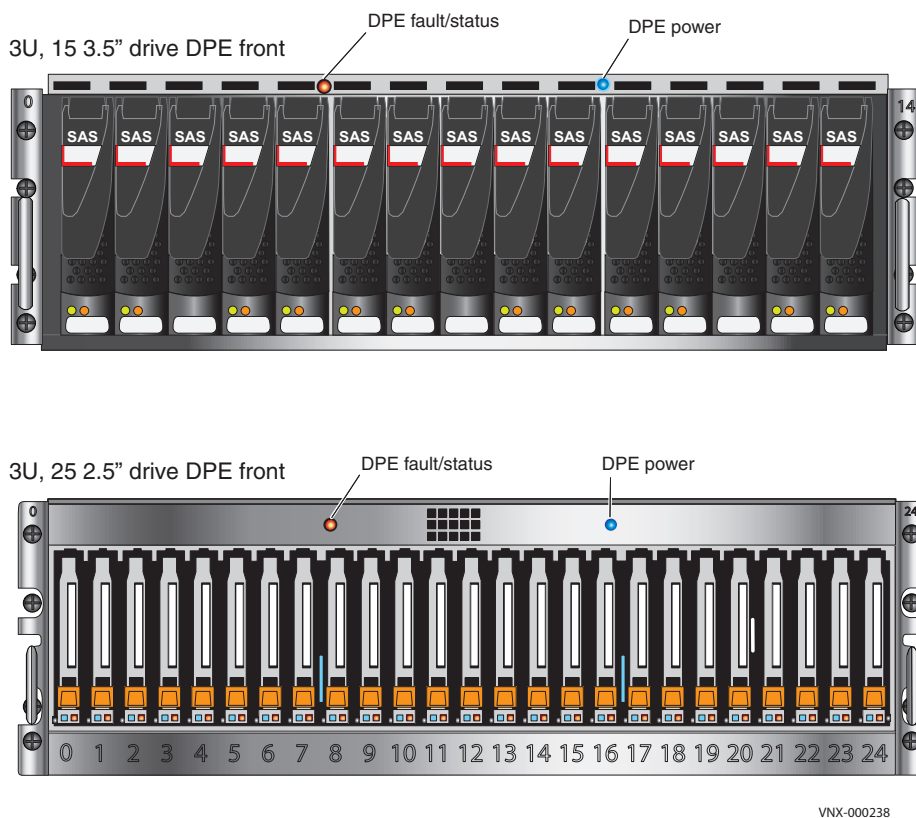
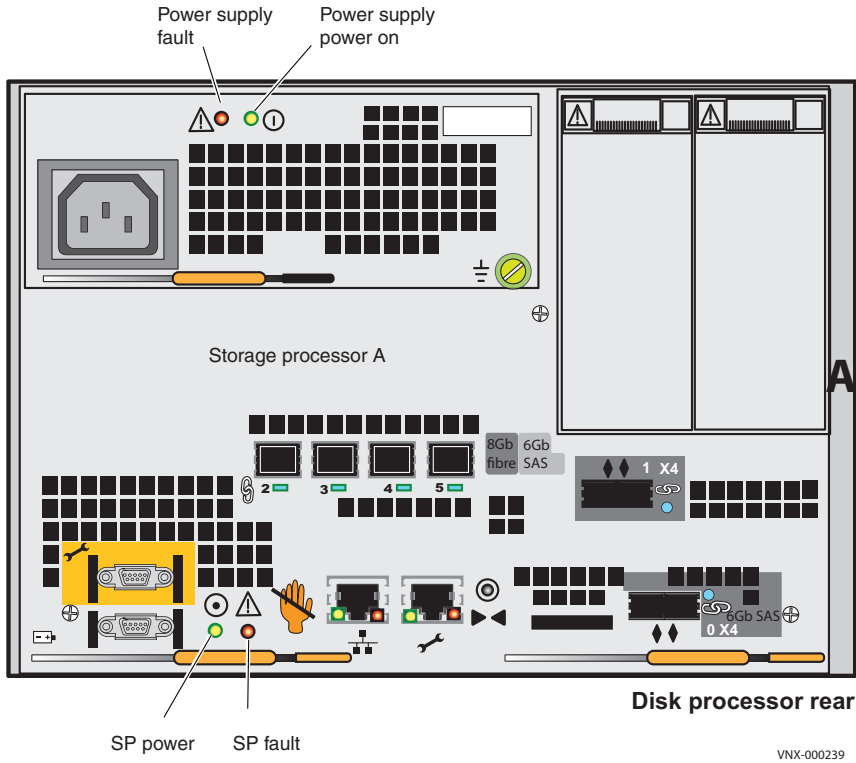

Figure 34 3U DPE LEDs
Figure 35 SP and power supply LEDs
4. If the optional CS1 is installed, wait until Step 3 completes and the SP fault LED is turned off, then connect CS1 to PDU A. **(L)** Figure 35 on page 46 shows an example of the SP LEDs in the disk processor.
Verify that the DPE and SP system Status and Power LEDs, located on the front are solid blue or green as shown Figure 34 and Figure 35 on page 46.
Verify that the SP Power LEDs on SP A and SP B located at the rear of the DPE are solid green and the SP Fault LED is off as shown in Figure 35 on page 46.